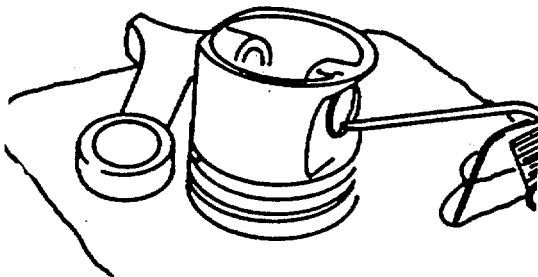
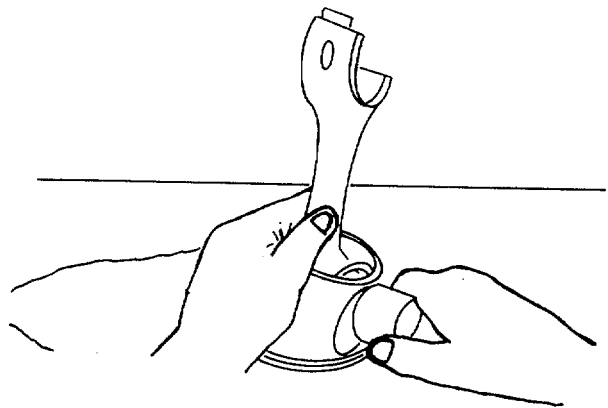

FIGURE 4-45. Lubricating Pin and Bore.
FIGURE 4-46. Installing Pin.
- b. Lubricate the pin and pin bores with engine oil (FIGURE 4-45). Install the pin (FIGURE 4-46).